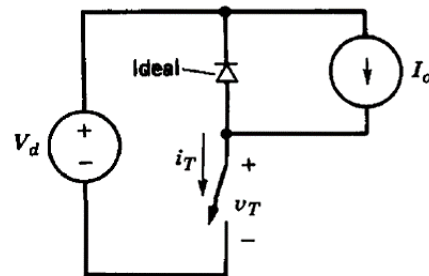

FIGURE 1a
1.2 According to the datasheet of a switching device, switching corresponds to linearised characteristics shown in figure 1a for clamped-inductive switching: